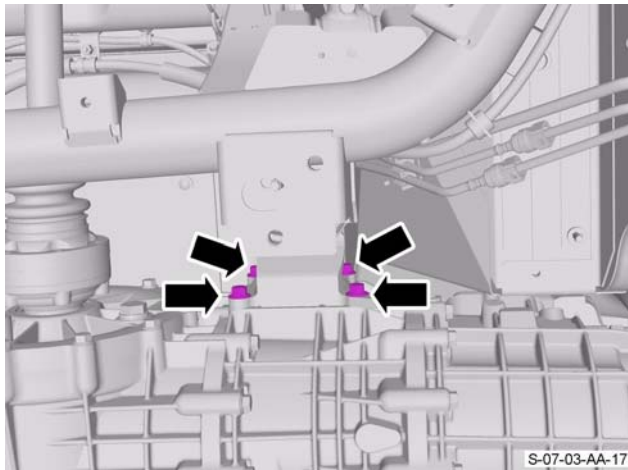

Figure 13
- 33. Remove and discard the four bolts that attach the right side transaxle mount bracket to the transaxle. (see Figure 13).